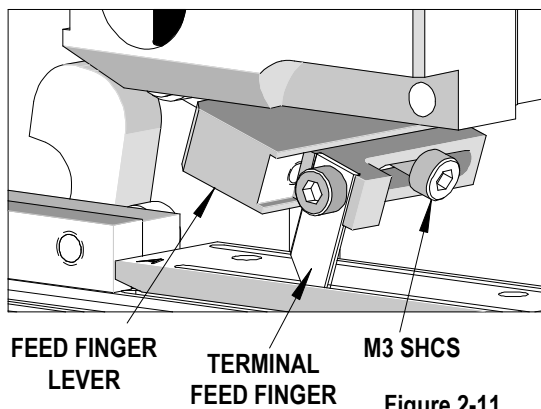

Figure 2-11
3. Using a 2.5mm hex wrench, loosen the M3 SHCS located on the feed finger mount. While holding the feed finger lever down slightly, slide the feed finger to the desired position. See Figure 2-11.